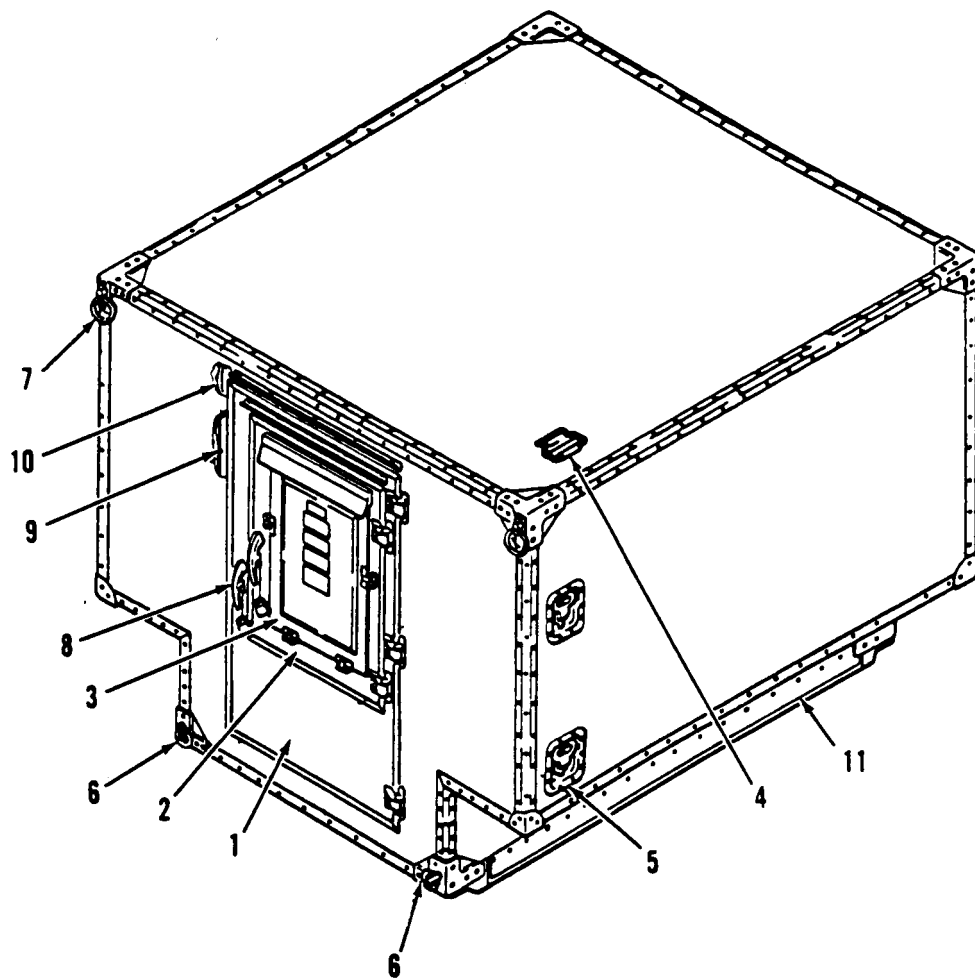

Figure 3-12. Overall Shelter Assembly Inspection.
**Inspect.** (Figure 3-12)
- (1) Inspect shelter exterior for dents, punctures, or any other damage.
- (2) Inspect shelter exterior for missing or loose parts and mounting hardware.
- (3) Inspect outer door assembly (1) and inner door assembly (2) for ease of operation.
- (4) Inspect louver cover assembly (3) for missing or damaged hardware and for ease of opening.
- (5) Inspect bail hand (4) and recessed steps (5) on shelter exterior for loose, missing, or damaged parts, and for proper operation.
- (6) Inspect towing eye bracket assembly (6) for damaged or missing parts and for proper operation.
- (7) Inspect lifting eye bracket assembly (7) for damaged or missing parts, and for proper operation.
- (8) Inspect sling assembly for damaged or missing parts, and for proper operation.
- (9) Inspect door latching mechanism (8), keeper assembly (9), and door stay assembly (10) for damaged or missing parts, and for proper operation.
- (10) Inspect skid assembly (11) for damaged or missing parts.